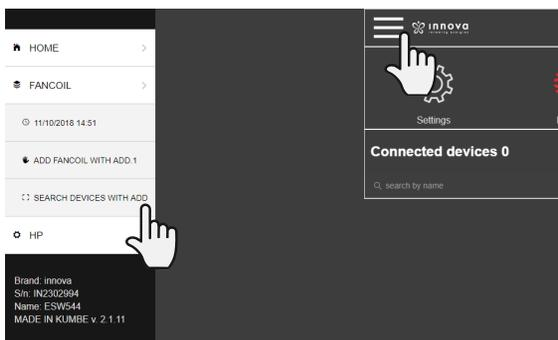

Figure 8.2
1. Enter the settings by putting the credentials as indicated in par. 6.4 (p. 19). Then enter the fancoils menu by clicking on the icon at the top left. A list will appear as shown in Figure 8.2
2. Select “SEARCH DEVICE WITH ADD.” (search fancoil with addressing) as always shown in Figure 8.2